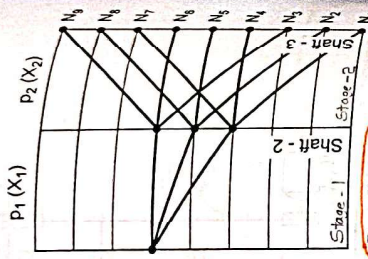

Fig. 9.2. Ray diagram of 9 speed gear box
The ray diagram is a graphical representation of the drive arrangement in general form. In other words, the ray diagram is a graphical representation of the structural formula, as shown in Fig.9.2.
- ✓ Fig.9.2 shows the ray diagram for a 9 speed gear box, having the structural formula, $z = 3 (1) \cdot 3 (3)$.